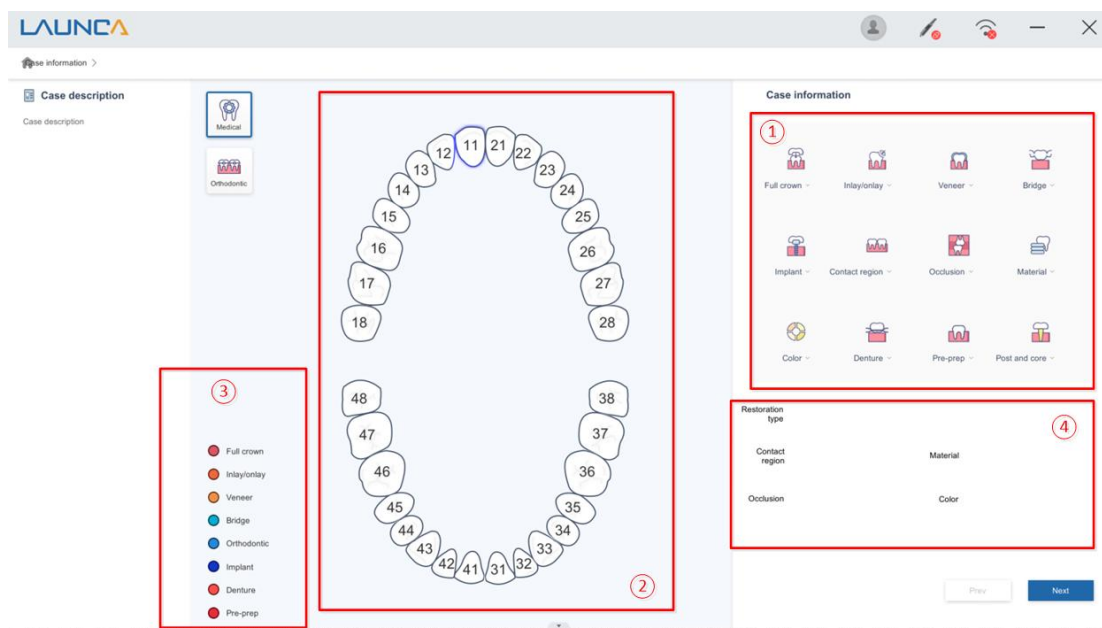

Fig. 4-5 Case Information
Click the  icon in the existing case records (as shown in Fig. 4-4) to enter the case information interface as shown in Fig. 4-5. The case can be set up following the below steps:
- 1) The teeth in the dental arch diagram (area ② in Fig. 4-5) will be selected and edited one by one. The position number of the selected tooth will turn red. The Dentist can edit the selected tooth with the **Case Menu** in the area ① shown in Fig. 4-5. The area ③ in Fig. 4-5 is the information area for the selected tooth.
- 2) If there is other necessary information in addition to the case options you can enter them in the "Case remarks" area ④ in Fig. 4-5.
- Information of areas No. 2, No. 3, and No. 4 in Fig. 4-5 will appear in the order information. Therefore, please confirm the contents before sending an order.